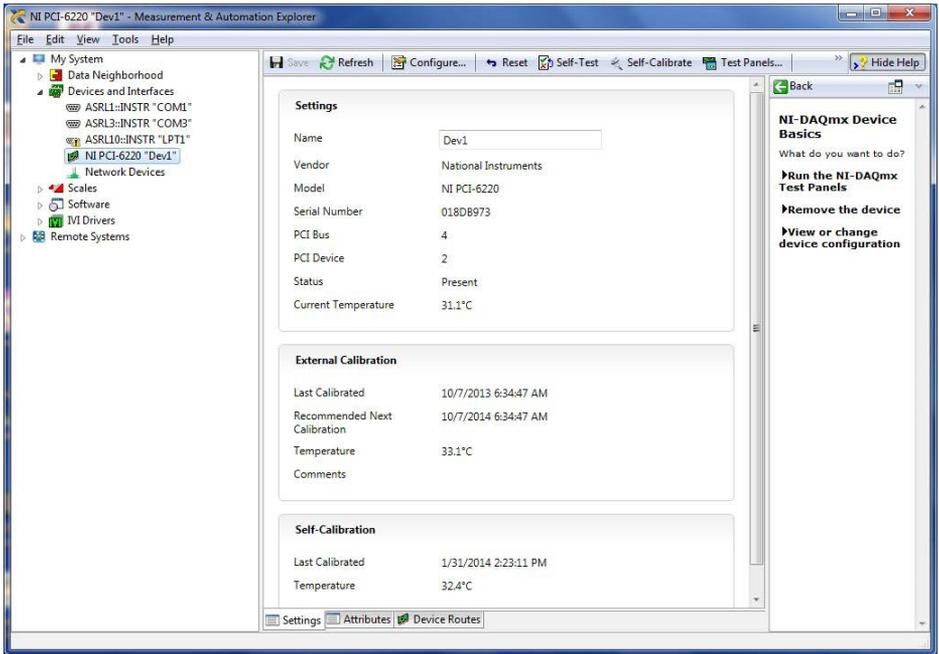

Fig. 38 — In this NI-Max window, the PCI-6220 card is highlighted in the left hand column.
5. Open the NI-Max program. In the explorer region on the left, navigate to My System>>Devices and Interfaces>>NI PCI-6220 and click on it to open the settings (Fig. 38).